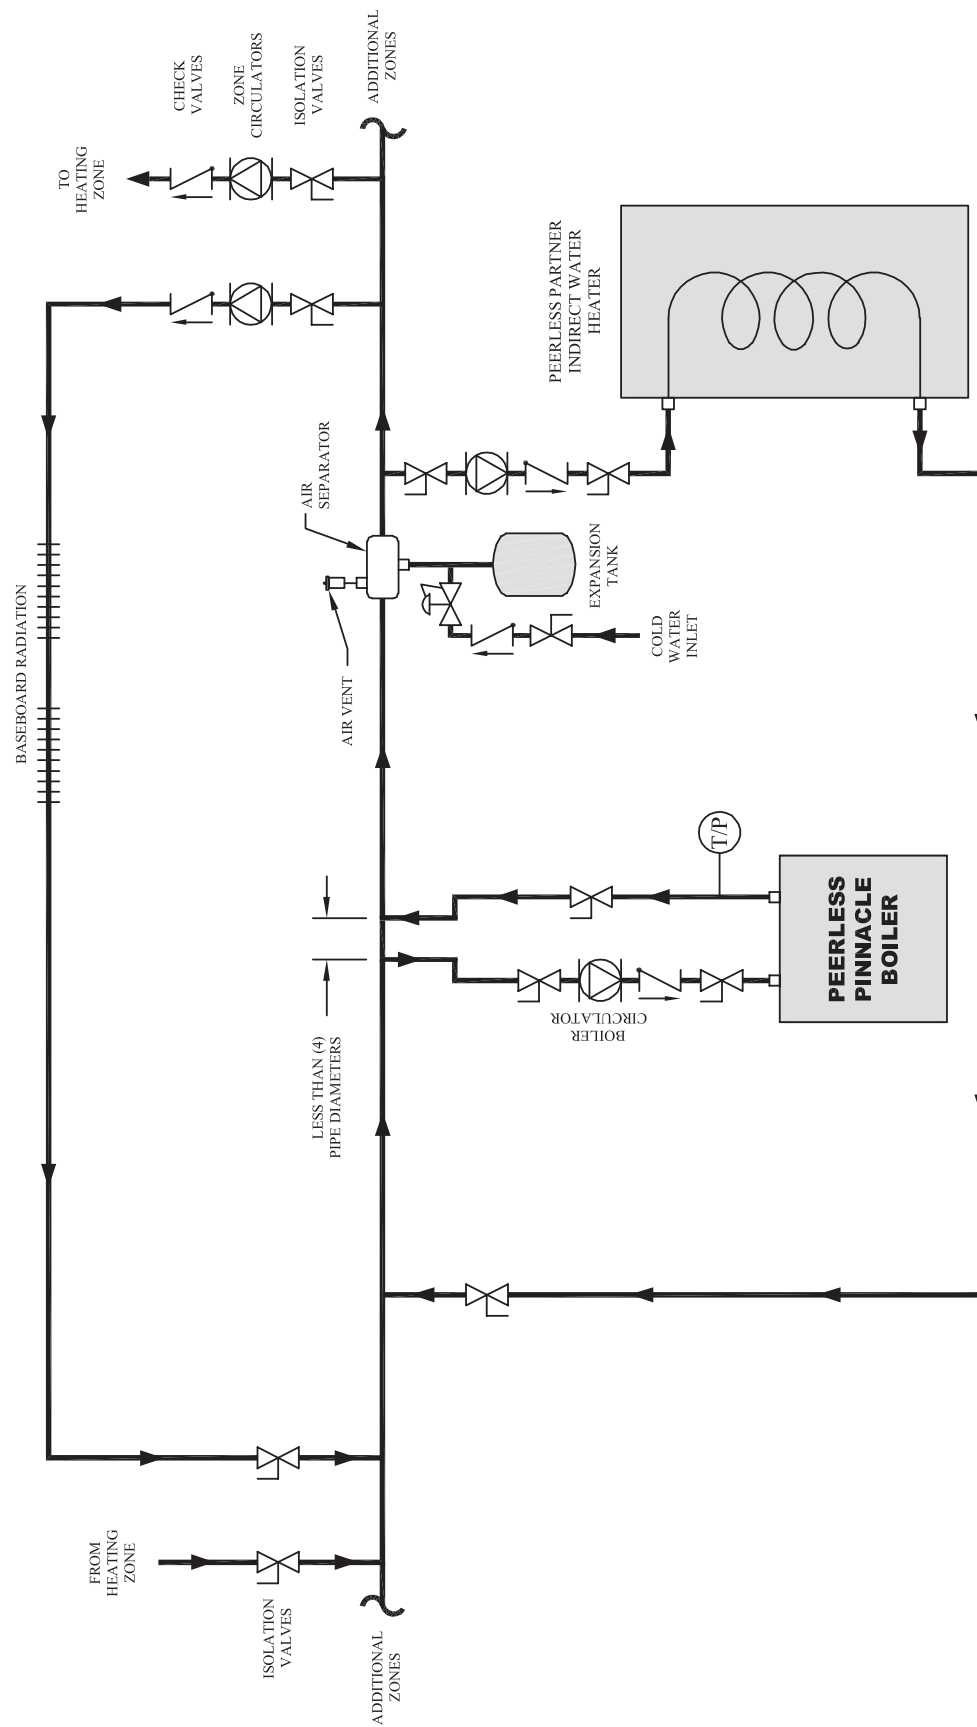

Figure 3.4: One Boiler, Primary/Secondary with Three Zones (Zone Circulator)
- Figure 3.4 shows an additional zone in which baseboard radiation is the heat load. This zone also requires water temperatures similar to the indirect water heater.